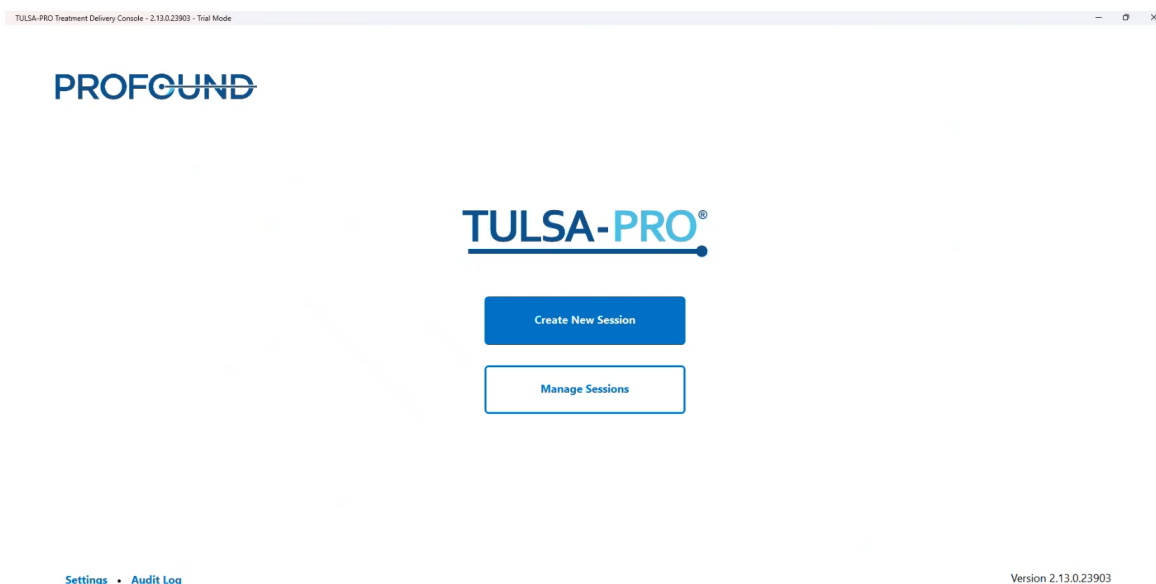

Figure 5: TULSA-PRO Start Screen
2. Launch the TDC software from the desktop. The **Start Screen** will appear (*Figure 5*).
2. After synchronizing the system clocks, the **Start Screen** will appear (*Figure 5*). Click **Create New Session**.